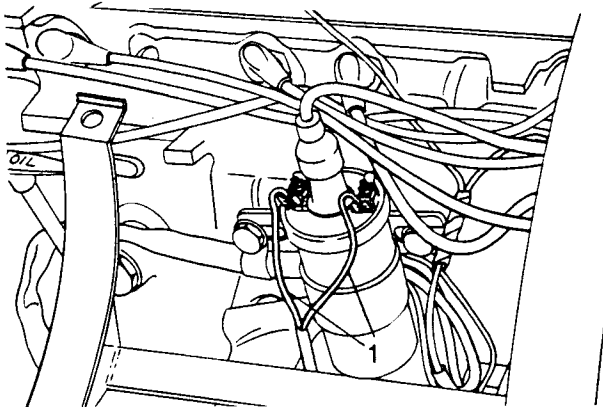

Fig B4.5
- (13) Refer to Fig B4.5. Disconnect the switch leads (1) at the ignition coil.